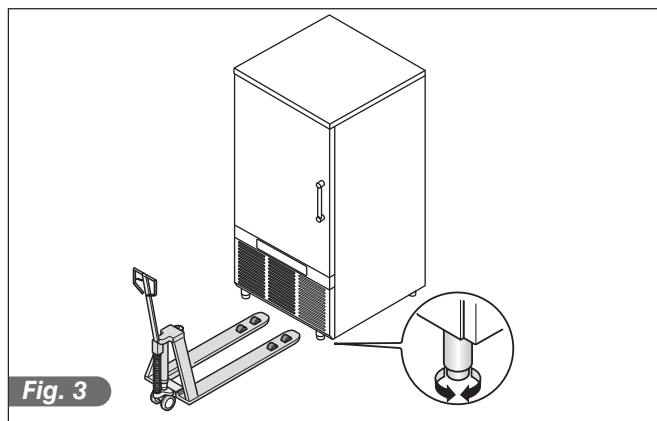

Fig. 3
- Level the appliance by means of the adjustment feet. Use appropriate lifts to level heavier machinery (Fig.3).